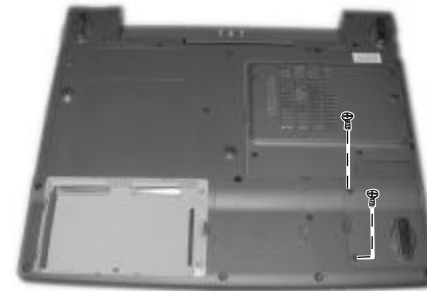

Figure 2-18 Remove two screws
3. Remove the two screws fastening the Mini PCI compartment cover (Figure 2-18)